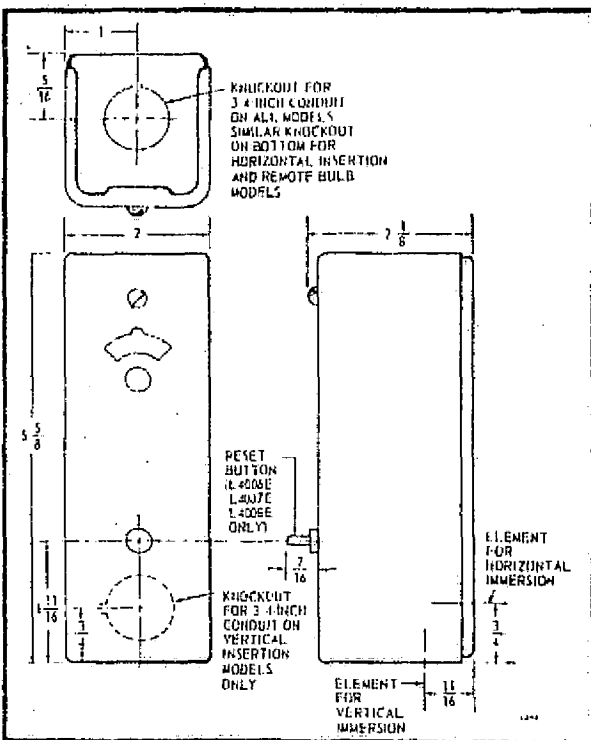

FIG. 1—INSTALLATION DIMENSIONS.
**INSTALLATION DIMENSIONS:** See Figs. 1 and 2.